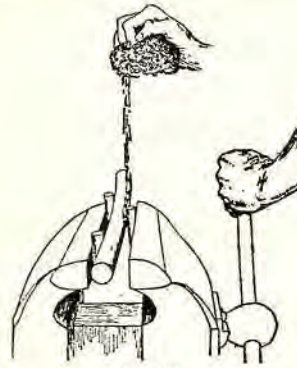

Fig. 31
3. Clamp the piece in a vise between the blocks, as shown in Fig. 31.